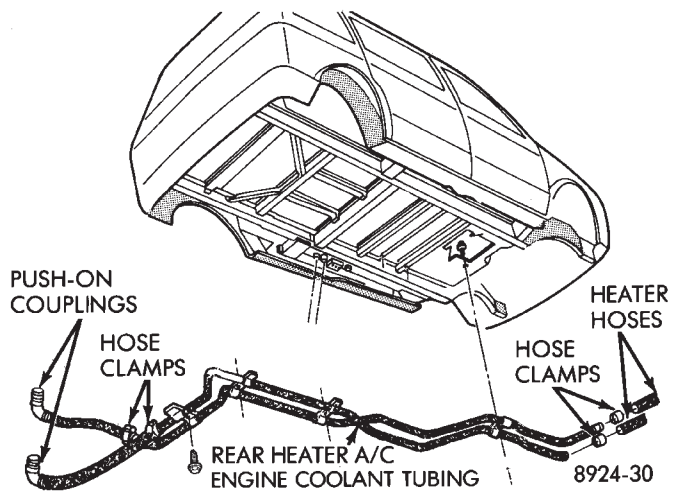

Fig. 2 Rear Heater Under body Plumbing
(1) Drain the engine cooling system. Refer to Group 7, Cooling System.
(2) In the engine compartment, disconnect two auxiliary rear heater hoses from the (front) heater hose tee fittings.
(3) Hoist the vehicle. Disconnect two push-together couplings from the auxiliary rear heater core tubes protruding through the floor pan.
(4) Remove four bolts and one pal nut holding the plumbing to the floor pan and lower the plumbing from the vehicle (Fig. 2).